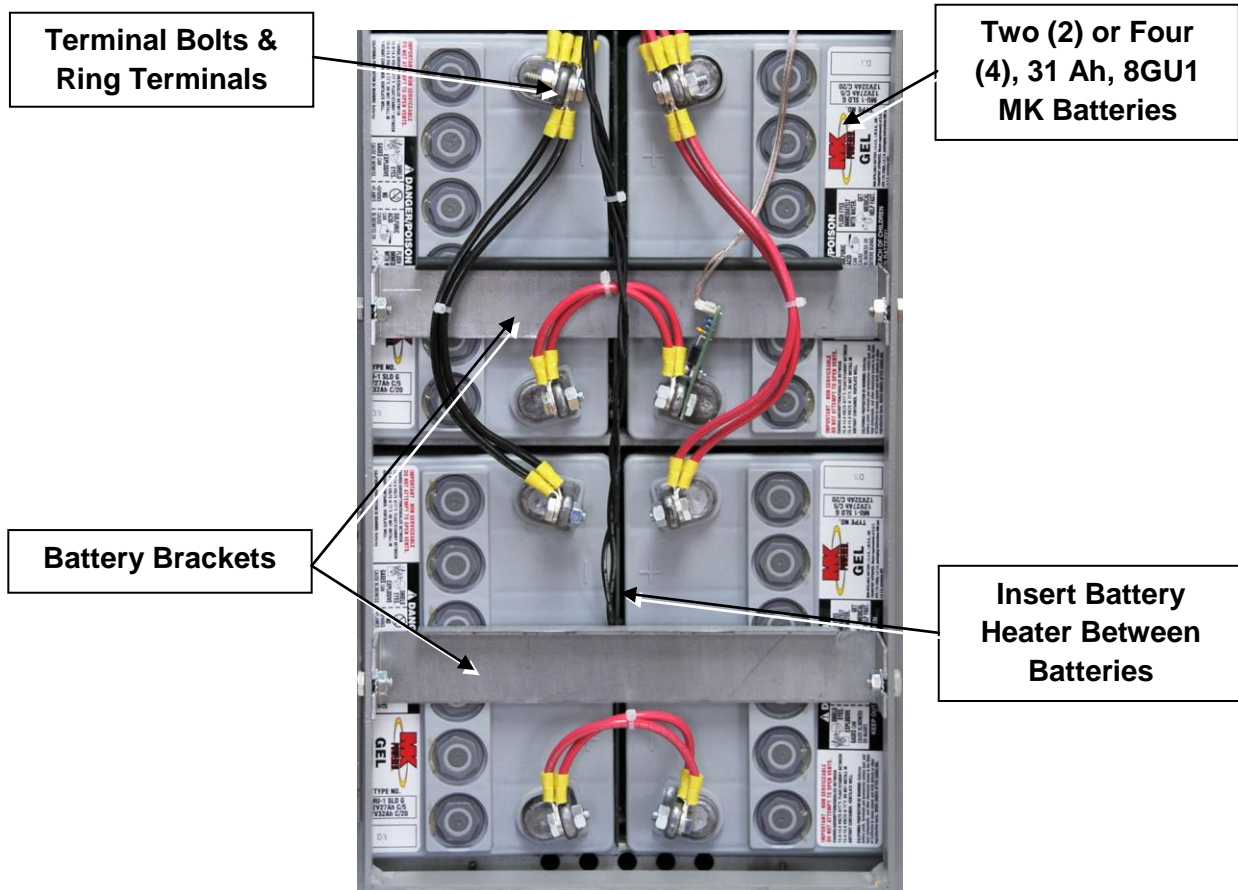

Figure 16: Batteries Shown in Open Battery Compartment
6.1 STATUS ALARMS – Relay contact status alarm signals are available through the DB-9 connector located in the top left corner of the electronics compartment. See Figure 16. The following output pins have been assigned:
6.21 The battery compartment(s) holds two (2) or four (4) 31Ah, 8GU1, MK Batteries. See Figure 16.